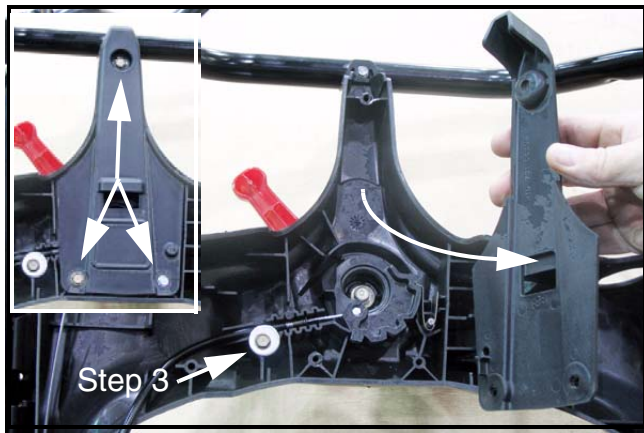

FIGURE1
- Using a 1/4" socket and ratchet or driver, remove the three screws holding the cover to the bottom of the control panel. See Figure 1 inset.
- Pull down on the cover to remove it. See Figure 1.
- Using a 5/16" socket and ratchet or driver, remove the cable clamp screw and washer that holds the speed control cable in place. See Figure 1.